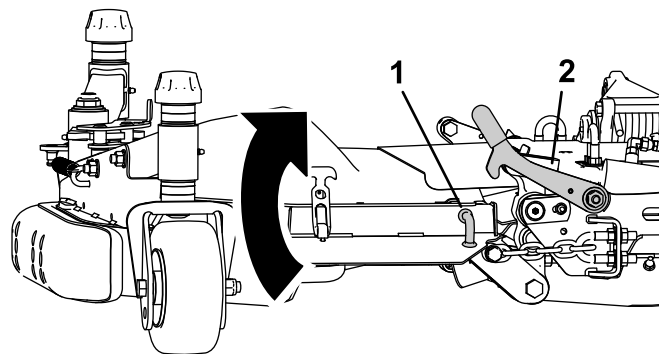

Figure 8
1. Raise the deck wing and secure the latch pin to the latch handle (Figure 8).